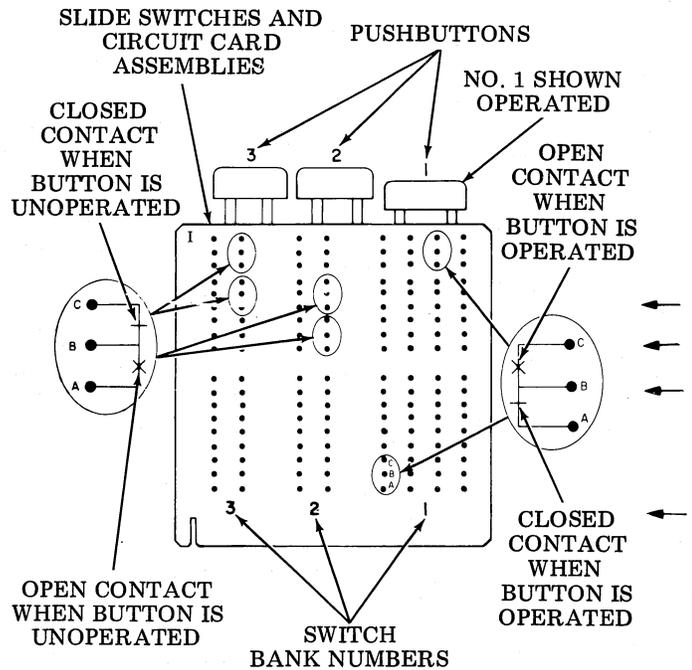

Fig. 4—Spare Switch Contacts
2.02 The switch assembly consists of four switch sections, each section comprised of 12 transfer-type switches. Three pushbuttons activate the switch sections (Fig. 4). Pushbuttons 2 and 3 operate one switch section each (with two spare sets of contacts for each section). Pushbutton 1 operates two switch sections (with two spare sets of contact — one set for each section). These spare contacts may be used for locally engineered applications (refer to Fig. 4 for illustrated details).
- 3.02 With pushbutton one depressed, the following EIA connectors are interconnected through closed contacts in switch banks 1, 3, and 2 (see Fig. 4).